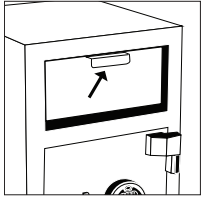

Figure 1
1. Locate and pull down on the depository door handle (Figure 1 and Figure 2).